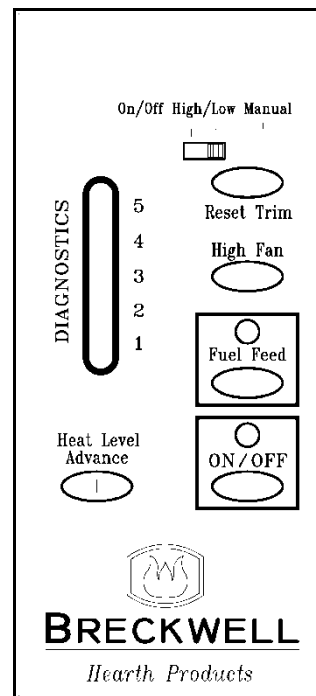

FIGURE 19
PANEL CONTROLS (See Figure 19)
- The green light located above the On/Off button (in the On/Off box) will flash during the ignition start-up period. (See figure 19)
- While the stove's auger system is feeding pellets the green light (in the "Fuel Feed" box) will be illuminated. (See figure 19)